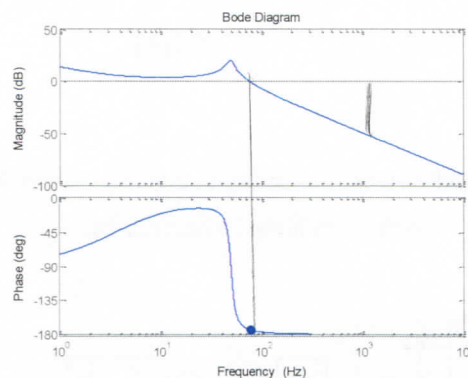

Figure 3: Current control loop gain.
Figure 3 shows current control loop gain with a simple unity-gain integrator as the controller (4). Comment on the stability and expected performance of the current control. Propose a controller transfer function to increase stability margins and explain how to select controller parameters (poles/zeros/gains). The control loop gain should have a crossover frequency around few kilohertz. You don't need to give specific values for controller parameters. You may sketch bode diagrams to justify the tuning process.